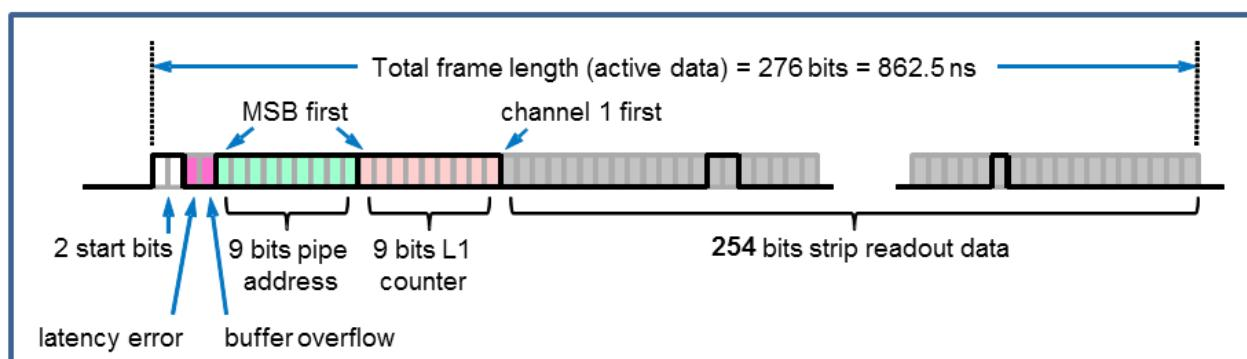

Figure 10 — Illustration of the serial L1 triggered data stream.
The serial data packet is 276 bits long and includes a two bit header plus two error bits, the pipeline address (9), the L1 Count (9) and the channel data (254), as shown below in figure 10. The pipe address and L1 counter data is arranged to output MSB first; the channel data comes out channel 1 first.
Pointer Start Logic is used to set the correct latency as determined by the value set in the *Latency Register*. The latter is a 9 bit register programmed using the I²C interface. The latency between trigger pointer and write pointer is constantly monitored by a latency check circuit. If the measured latency does not match the programmed latency then an error bit is set, which is output as part of the serial data stream (See figure 10).
A triple redundant 9 bit counter records the number of L1 triggers received (up to 511). The counter is reset through the Fast Control Interface by its own dedicated reset command, *L1 Count Reset*. The count is output as part of the *Triggered Data* packet (figure 10).